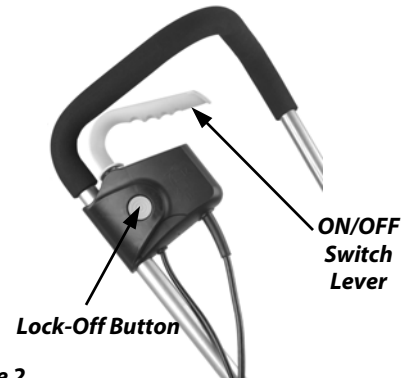

Figure 2
- Starting, stopping, and restarting an electric Motor repeatedly within a few seconds can generate a great deal of heat and damage the Motor. To protect the life of your NEUTON Corded Tiller, always wait at least five (5) seconds after stopping before restarting the Tiller.
3. Push the Lock-Off Button IN (**Figure 2**) with your left thumb and squeeze and hold the ON/OFF Switch Lever (**Figure 2**) up against the Handlebar with your right fingers. Once the Motor starts you can remove your thumb from the Lock-Off Button. If the Tiller does not start, make sure you plugged the power cord into a live 120V outlet (simply use a lamp to check the power outlet and cord) and firmly plugged the power cord into the Tiller power receptacle.